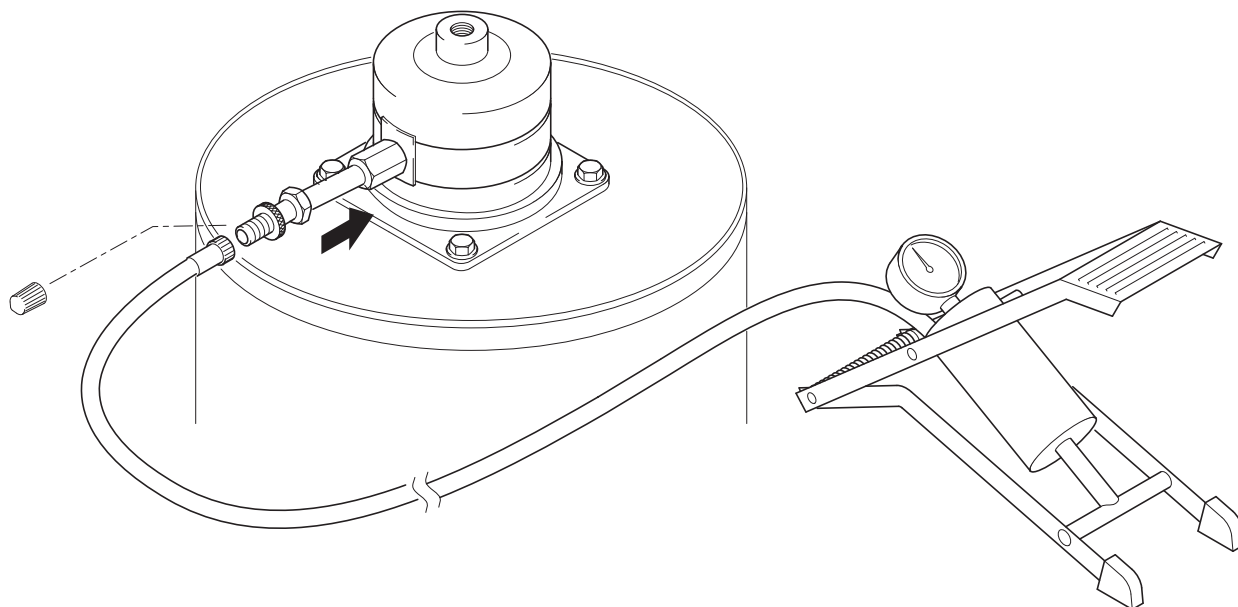

Fig. 3.3 Inflating passive isolator
- 2) Connect a footpump to the Schraeder valve of one of the isolators and inflate to about 40 p.s.i. - see Fig. 3.3
- 3) Repeat item 2) for the isolator diagonally opposite.
- 4) Repeat items (2) and (3) for the remaining two isolators.